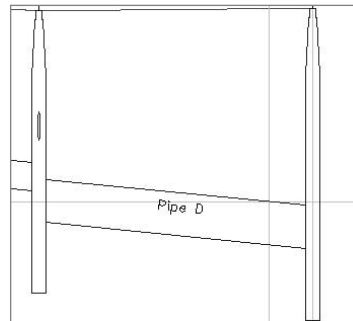

Figure 13.31
8. Note that the structure style changes in both plan and profile views to reflect the new part. Figure 13.31 shows Pipe D in profile.